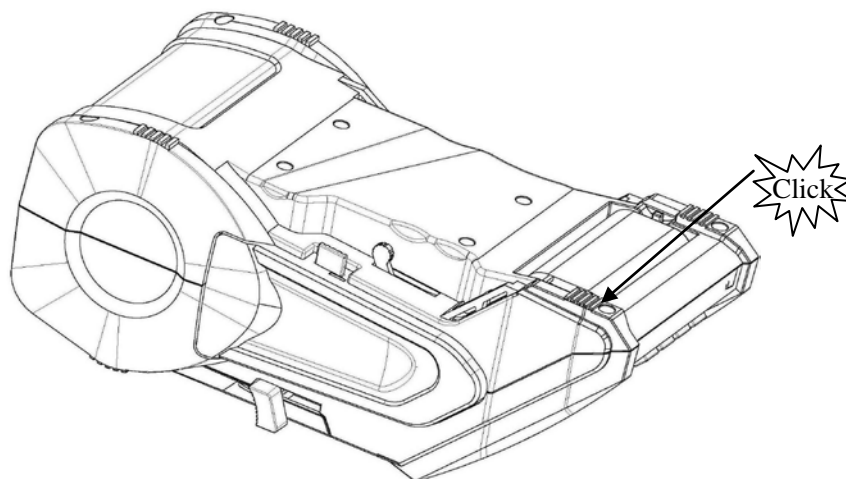

Figure 2-5
2. Firmly slide the battery to the left until you hear a click (Figure 2-5)